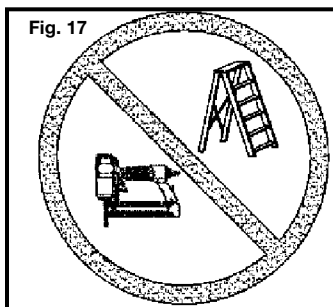

Fig. 17
27. FOR TOOLS USED IN CONTACT ACTUATION MODE, Do not use on scaffoldings or ladders or for tasks in which changing location involves the use of scaffoldings, stairs, ladders, and the like. Do not use for specific tasks such as closing boxes or crates or fitting transportation safety systems on vehicles and wagons. Fig. 17.